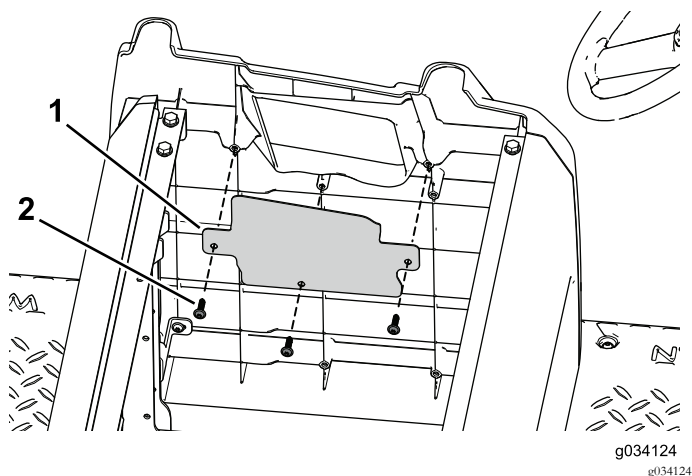

Figure 96
6. Use the 3 self-tapping screws to secure the opening cover to the side plate (Figure 96).